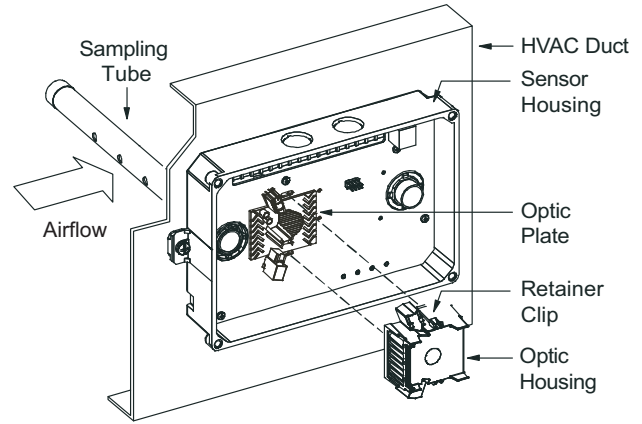

Fig. 51 — Sensor Cleaning Diagram
1. Disconnect power from the duct detector then remove the sensor's cover. See Fig. 51.